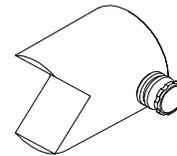

Figure 1-6. V-Base
c. **V-Base.** The V-base (Figure 1-6) is basically a 3" (7.6 cm) diameter cylindrical base with a 90° "V" machined approximately 1" (2.5 cm) deep at its center. The V-base is primarily used to stabilize anything with a corner or angle at the point of support.